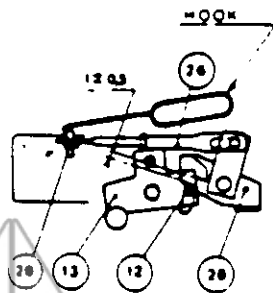
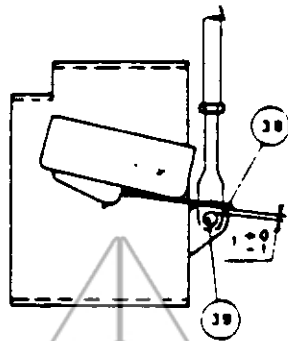

Fig. 17
Fig. 21
A. Tripping (Fig. 17 and 18)
1) Adjustment. Place breaker in open position and unscrew adjusting reset screw (30). With release bar in latched on position resulting from breaker being in open position, adjust linkage (26) to provide 1 ± 0.5 mm (0.039 ± 0.020 inch) between lever (28) and lug (12) of the latch (13).
- A. Limit switch for Latch Indication. Place bar in latched position as shown in Fig. 17 and 18. In this position, the limit switch contacts will be closed. Deform strip (38) Fig. 21 to provide maximum gap setting of 1 mm (0.03 inch) between strip (38) and lug (39). NOTE: This adjustment must be performed without applying voltage to the undervoltage holding coil. Following adjustment, operate voltage release device permitting release bar to unlatch. Inspect limit switch to see that contacts open.